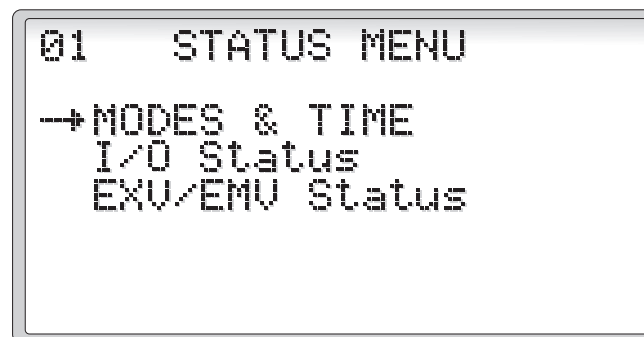

Figure 5
2.3.1 Status Menu (Figure 5)
Selecting the Status Menu will display the screen shown in Figure 5. The Modes and Time may be selected as well as the status of the Analog and Digital inputs and outputs and the electronic valve status.